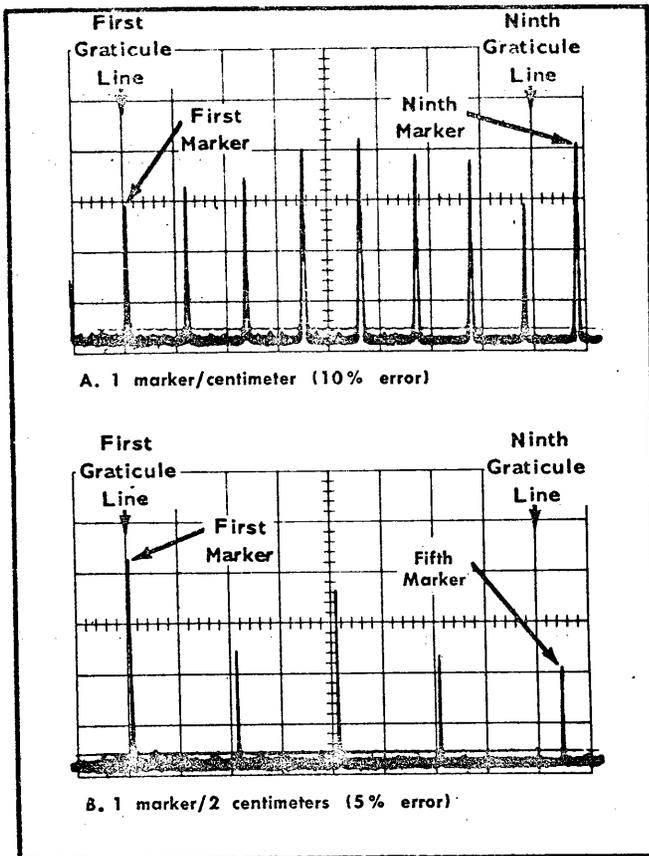

Fig. 5-1. Measuring dispersion accuracy.
a. Requirement—Dispersion accuracy for the MHz/CM ranges is listed in Table 5-1. IF CENTER FREQ control range should equal or exceed + and $-$ 25 MHz from its centered (000) position. Dispersion accuracy and display linearity must remain with the listed specifications of Table 5-1 to the + and $-$ 25 MHz positions of the control.
e. Check the dispersion accuracy and linearity for each MHz/cm setting of the DISPERSION selector as listed in Table 5-1. (See Fig. 5-1 and 5-2.) The Horizontal Position control or the IF CENTER FREQ control may be used to align the prime markers to the graticule divisions. The RESOLUTION control should remain coupled with the DISPERSION selector.